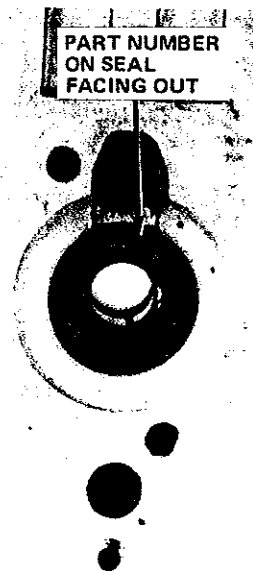

Figure 8. Part number on seal must face out.
- A. Install new drive shaft seal in gear housing, using a proper size seal driver. Install seal with open side against bushing (prt number facing out) (Figure 8).